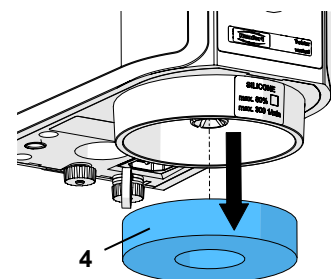

Fig. 12
- ⇒ Pull the sponge filter out in the direction of the base (Fig. 12).
- ⇒ Loosen the sinter filter (13) by turning counter-clockwise and remove.